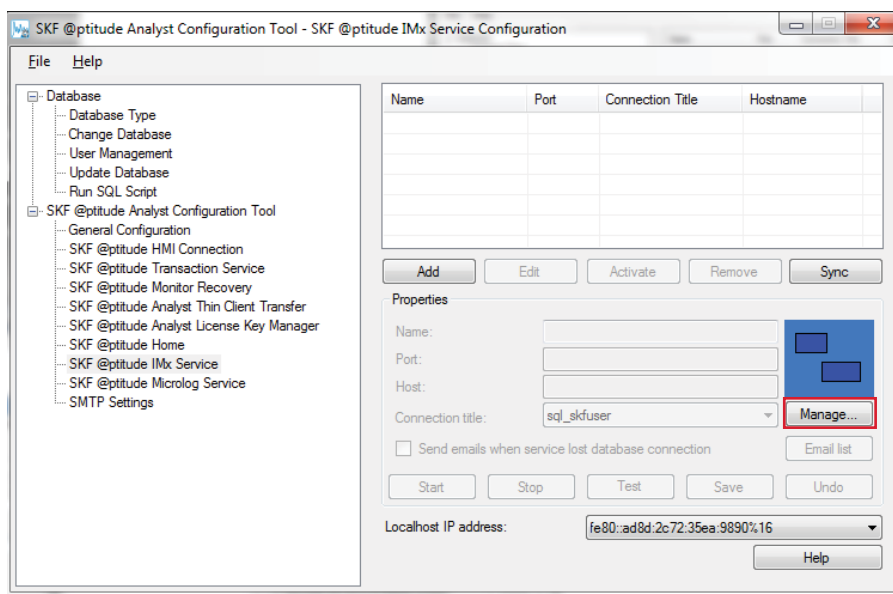

Fig. 17. Manage the SKF @ptitude IMx Service.
- Highlight **SKF @ptitude IMx Service** and click **Manage** (→ fig. 17).